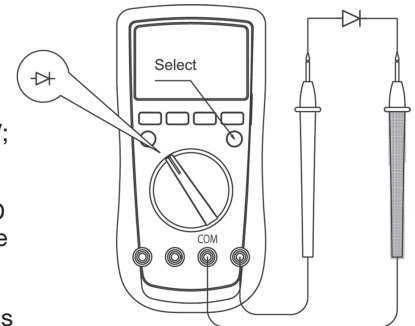

Figure 6
E. TESTING DIODES (See Figure 6)